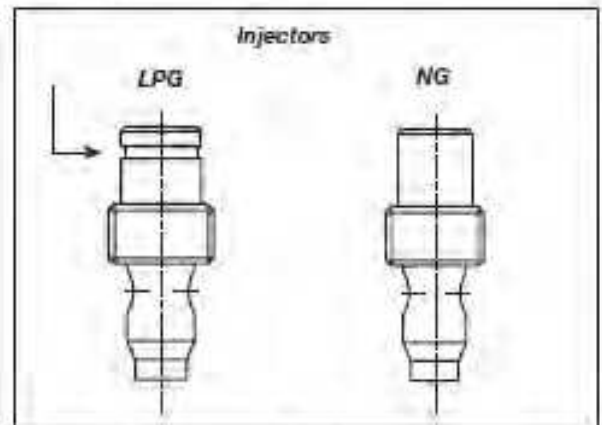

fig. 4
5. Verify that the new injector is proper for the application. The injector size is stamped on the side of the injector near the top. LPG injectors have a groove machined around their circumference near the top, while NG injectors do not have a groove (fig. 4). Refer to the Appliance Manufacturer's instruction sheet for the proper injector size.